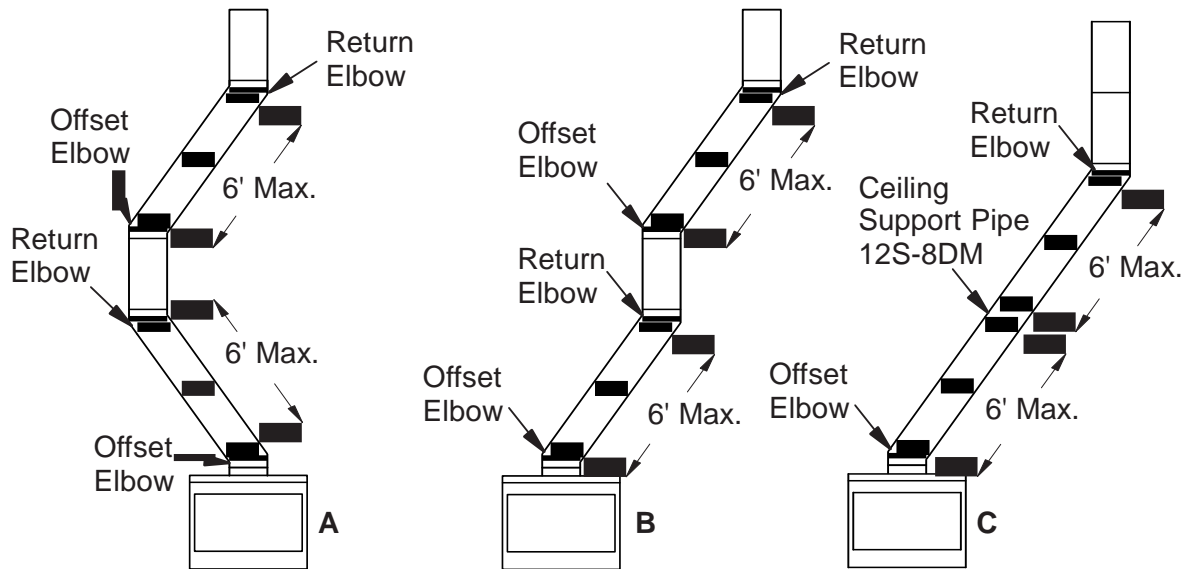

Figure 7 - Typical Offset Terminations
1. To achieve desired offset, you may install combinations of 12", 18", 24", 36" and 48" length of double wall pipe (see offset chart and Figure 7).
3. Maximum length of pipe between supports (return elbow or 12S-8DM) is 6' of angle run. Maximum of two 6' angle run sections per chimney system (see Figure 7).